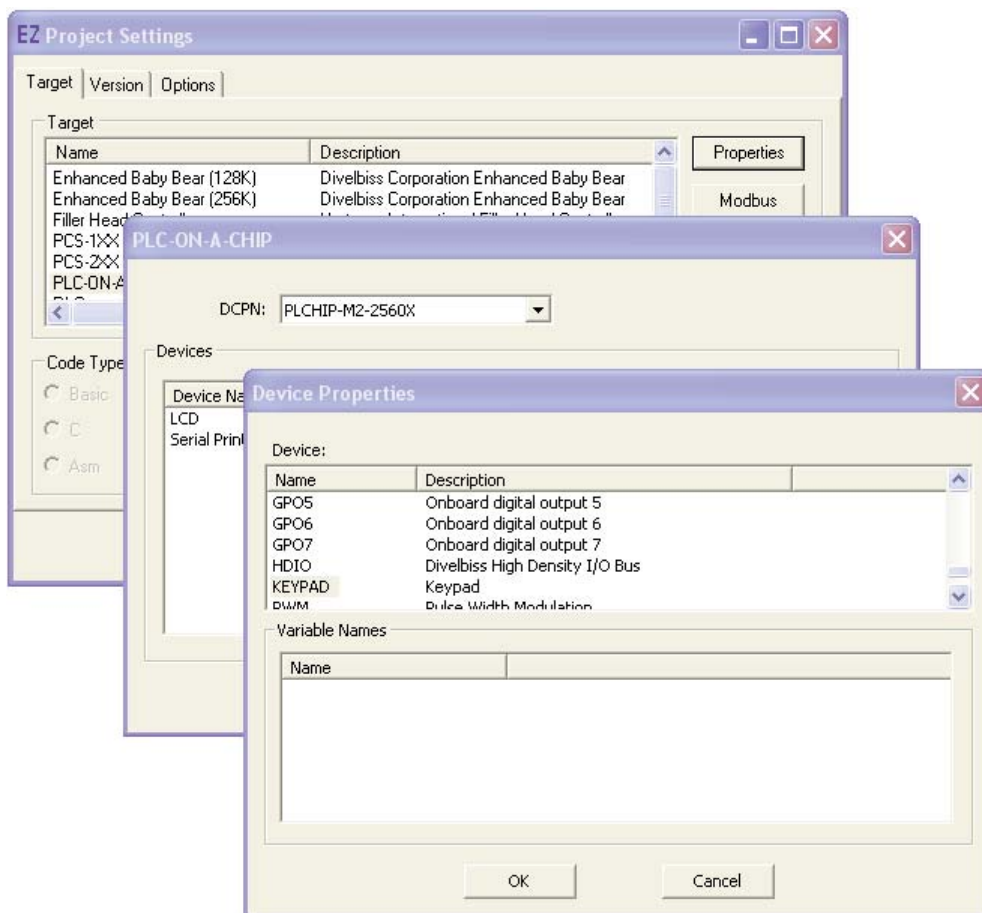

Figure 14.1
4. From the provided ADD dialog *Devices* list, select the Keypad. See Figure 14.1.